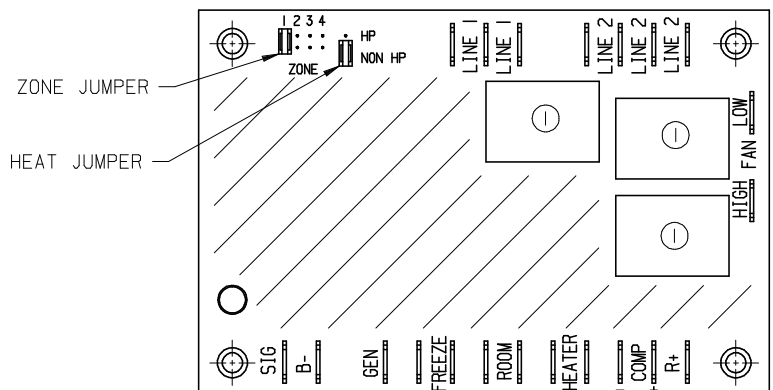

FIGURE 2
2. Set the "zone" jumper to the proper zone position for the particular position the air conditioner or heat pump will be in the coach (**Refer to Figure 2 – Zone 1 is shown**). Zones should be numbered from the front to the back of the coach with Zone 1 in front.
3. Set the "HP"/"NON HP" jumper to "HP" if the unit is a heat pump or to "NON HP" if the unit is not a heat pump (**Refer to Figure 2 – Non HP is shown**).
Insert the evaporator freeze sensor between evaporator fins near the bottom center of the evaporator and between the bottom two tubes (See Figure 2). Insert straight in until contacting the staggered tube directly in back of the insertion point. When contact has been made, elevate the exposed end of the sensor approximately 45 degrees, then continue insertion at a 45 degree angle until the sensor is completely embedded into the evaporator.